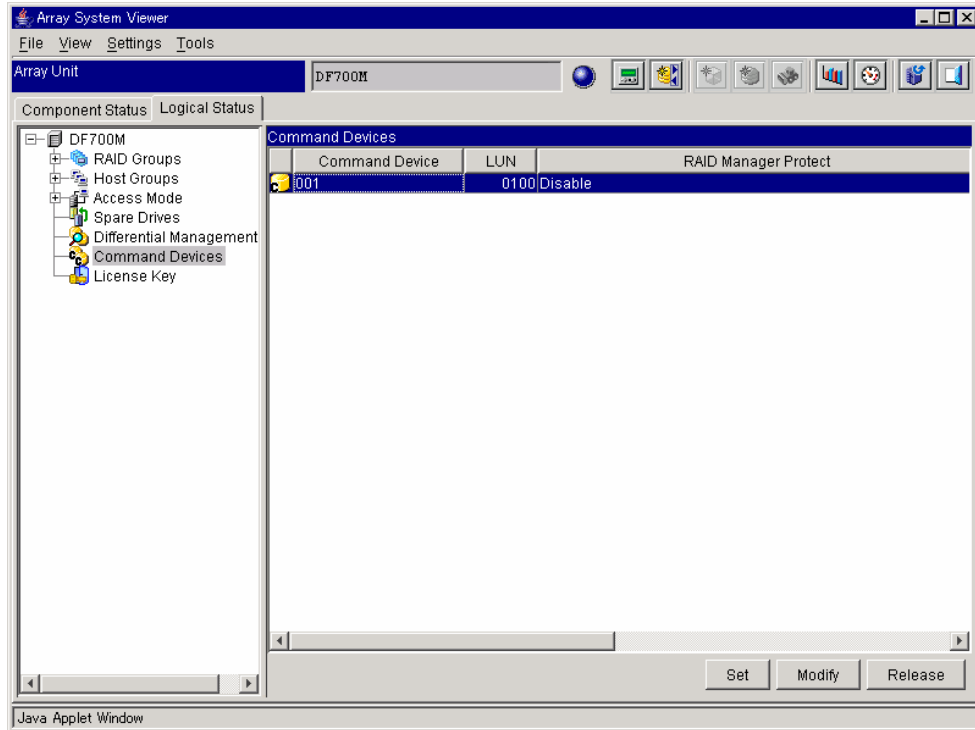

Figure 6.17 Array System Viewer - Command Devices
1. Click the **Logical Status** tab on the **Array Unit** screen. See Figure 6.17.